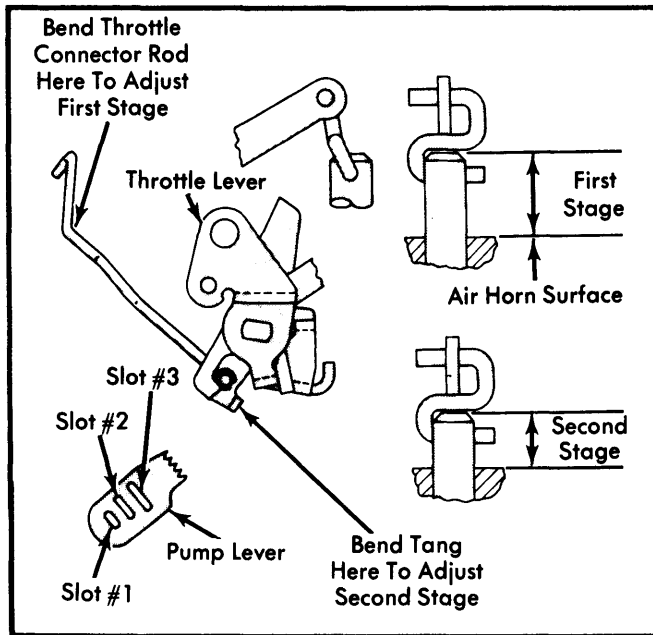

Fig. 12 Adjusting Accelerator Pump Stroke (First and Second Stage)
- First Stage** — 1) Be sure throttle connector rod is in correct hole of 3-hole pump arm (or 2-hole pump arm). See Fig. 12.
Second Stage — 1) This adjustment is for staged accelerator pump systems only. Carburetors so equipped are specified in the Specification Table. See Fig. 12.